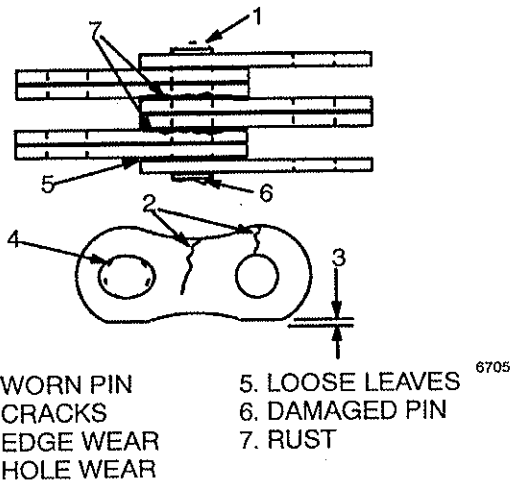

FIGURE 12. CHECK THE LIFT CHAINS
Inspection Of Mast, Forks And Lift Chains (See NO TAG and FIGURE 12.)
7. Inspect the lift chains for cracks or broken links and pins. See FIGURE 12.